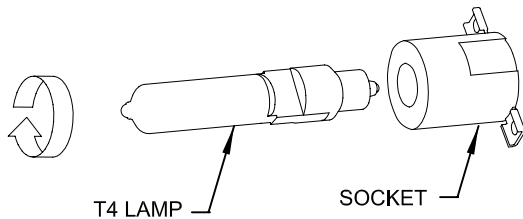

FIG. 5
2. Screw T4 LAMP into SOCKET as shown in FIG. 5